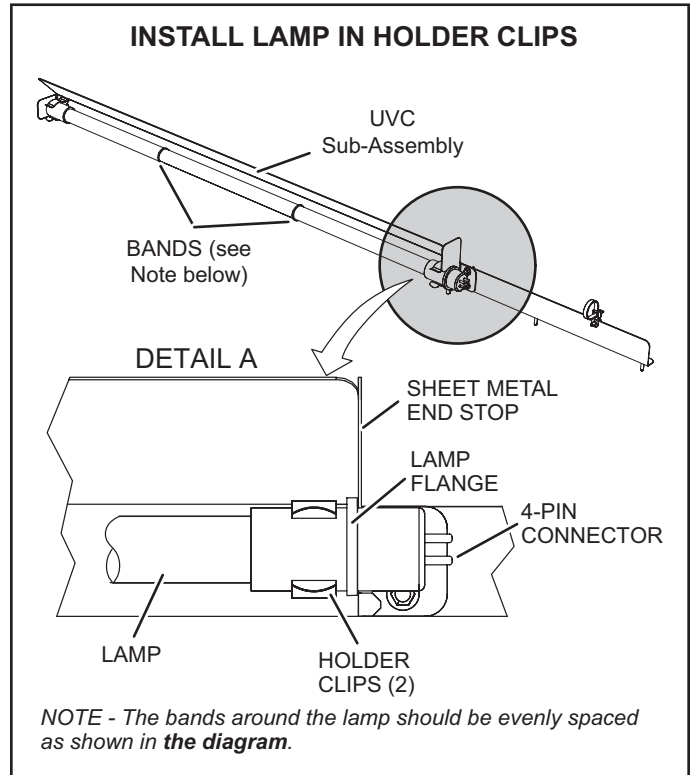

FIGURE 45
- 5 - Remove the (2) mounting screws of the UVC assembly. Carefully slide the complete UVC assembly out through the blower access door.
- 7 - Wear cotton gloves or use a cotton cloth when handling the new lamp. Place the new lamp in the holder clips of the UVC assembly. Verify that the lamp flange at the connector end is sandwiched between the lamp holder clip and the sheet-metal end stop (see FIGURE 45).